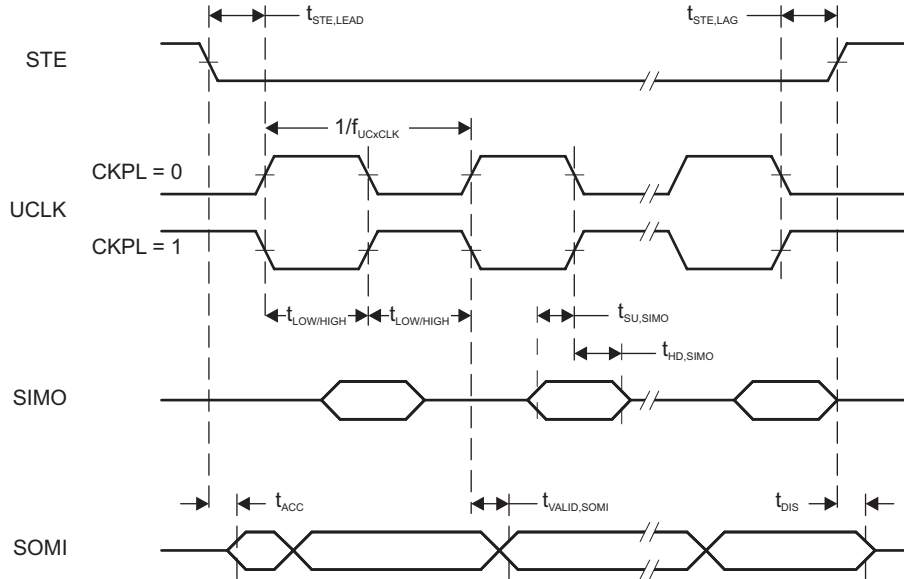
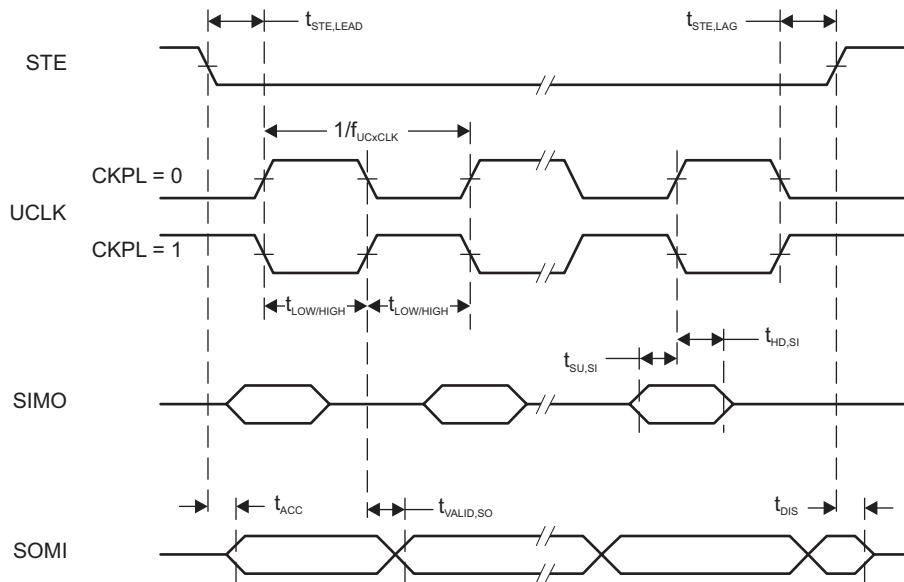

Figure 5-25. SPI Slave Mode, CKPH = 0
Figure 5-26. SPI Slave Mode, CKPH = 1
over recommended ranges of supply voltage and operating free-air temperature (unless otherwise noted)⁽¹⁾ (see Figure 5-25 and Figure 5-26)
(2) Specifies the time to drive the next valid data to the SOMI output after the output changing UCLK clock edge. See the timing diagrams in Figure 5-25 and Figure 5-26.
(3) Specifies how long data on the SOMI output is valid after the output changing UCLK clock edge. See the timing diagrams in Figure 5-25 and Figure 5-26.